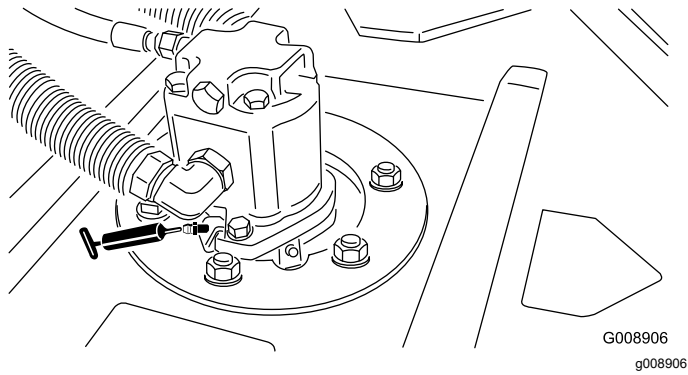

**Figure 43**
- Neutral-adjustment mechanism (Figure 43)